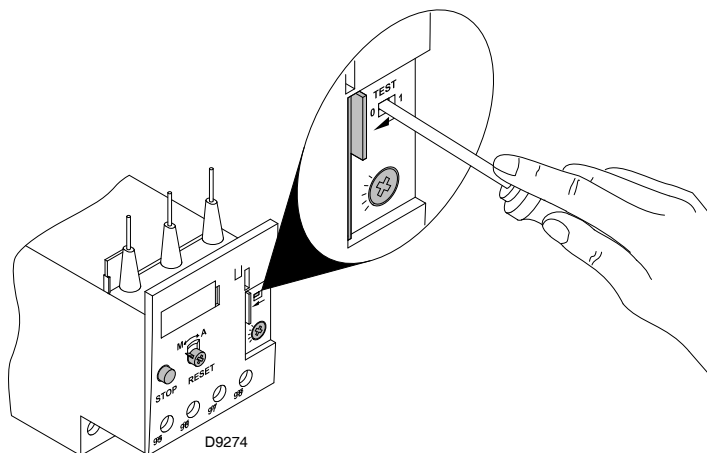

Fig. 30
- To test the thermal relay, insert a screwdriver in the window “TEST” (Fig. 30) and move it in the sense of the arrow (towards right).